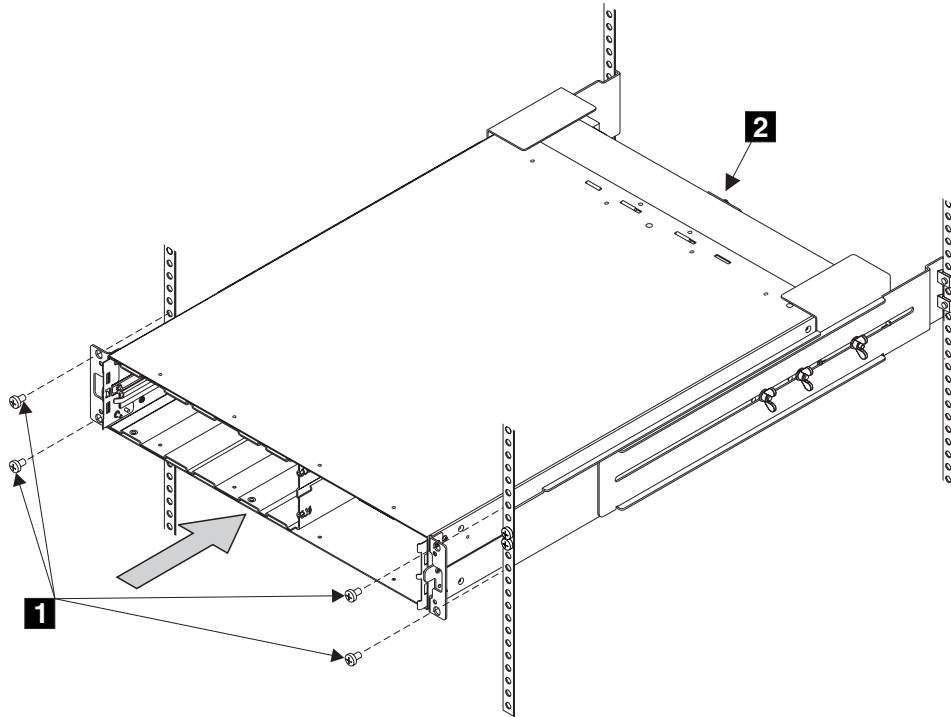

Figure 261. Replacing the 2145 UPS into a rack
5. Install the front flathead screws **1** (see Figure 261).